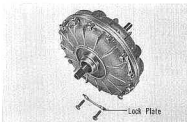

Fig. 7B-62
8. Install the torque converter assembly on the pump shaft coupling and then mount it to the spline of the primary driven sprocket. (Fig. 7B-63)